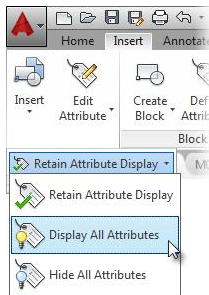

FIGURE 9.34: Selecting the Display All Attributes option
2. On the Insert tab > Expanded Block panel, click the down arrow next to the Retain Attribute Display button, and click Display All Attributes, as shown in Figure 9.34.